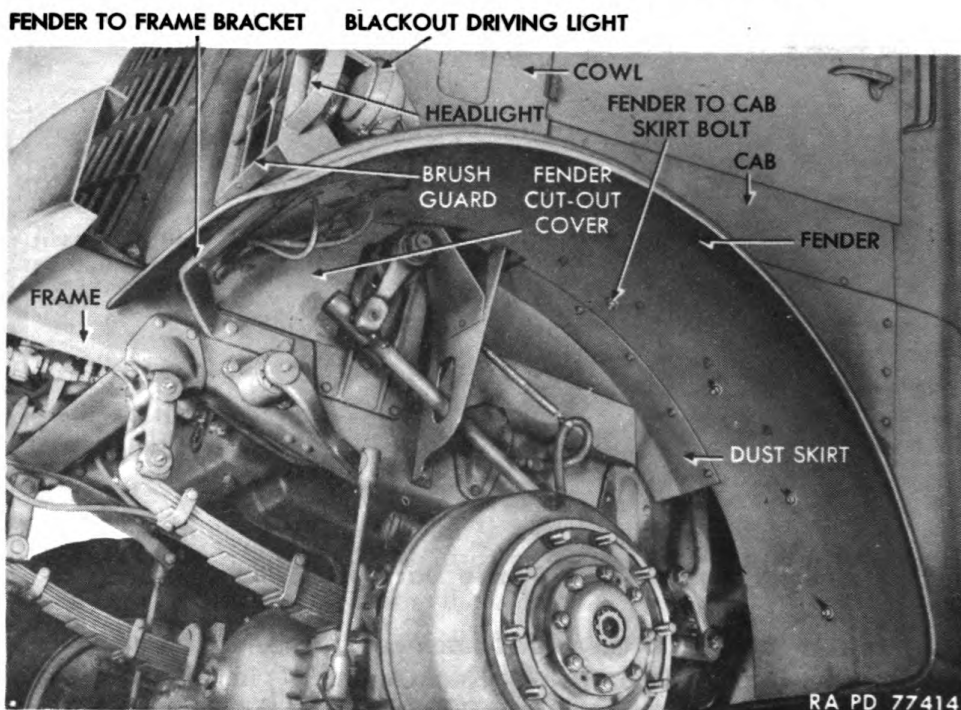

Figure 103 – Fender Installed
a. Description (fig. 103). Two front fenders are attached to cowl, cab, and frame above front wheels. The fenders are used as a means of entering or leaving cab. They are protected from wear by scuff plates attached at top center. Headlights, blackout lights, and brush guards are mounted on brackets at front of each fender. The two rear fenders, attached to an upper and lower support channel, are positioned in front of rear wheels. They protect wheels from dirt and water thrown back from front wheels.
c. Removal (fig. 103).
d. Installation (fig. 103).